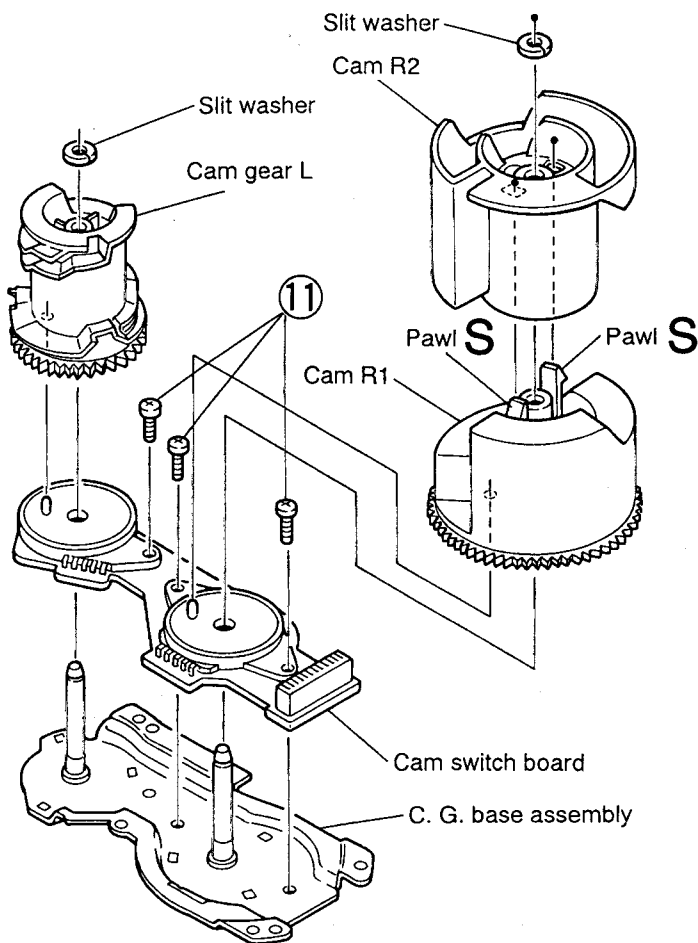

Fig.5-57
■ Removing the cams R1/R2 assembly and cam gear L (See Fig. 5-57)
■ Removing the C.G. base assembly (See Figs. 5-57 and 5-58)